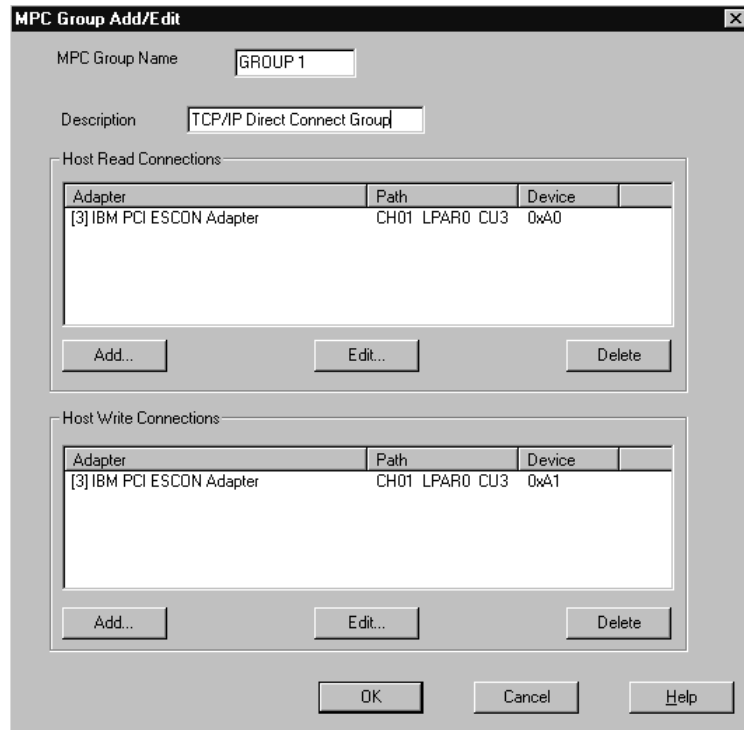
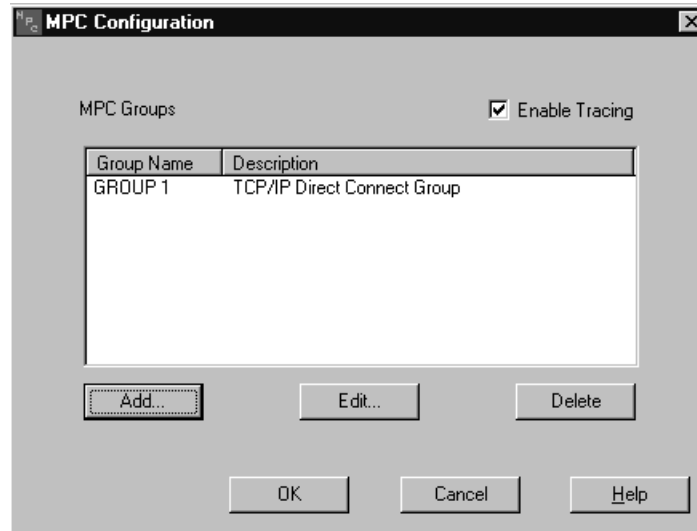

Figure 5-10. Completed MPC Group Definition
Figure 5-11. MPC Configuration with New Group
- Once both Read and Write connections have been defined (Figure 5-10), click **OK** to define the group and return to the MPC Configuration screen (Figure 5-11) which now shows the new MPC Group.